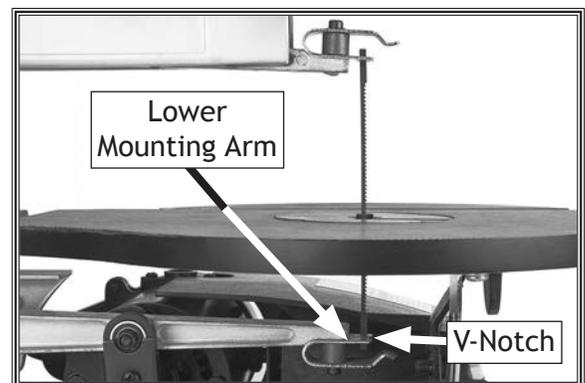

Figure 29. Lower blade mounting arm.
6. Slide saw blade through table hole so teeth face down and forward (see Figure 29).
7. Position lower pin-ends underneath V-notch in lower blade holder, as shown in Figure 29.
8. While holding adapter, press it down and install other adapter on lower mounting arm (see Figure 29 on Page 25).